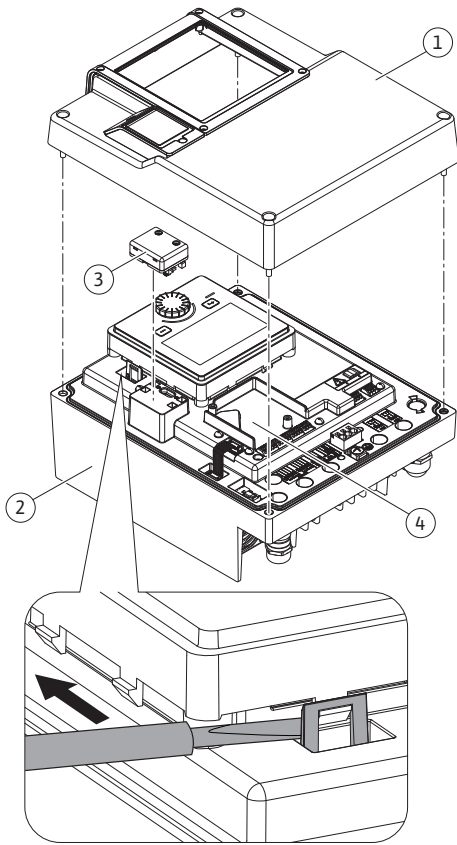
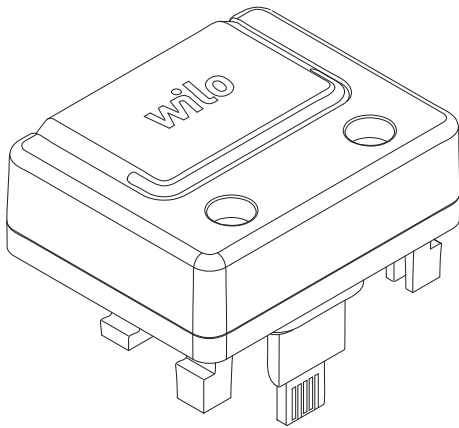

Fig. 25: Electronic module
Fig. 26: Wilo-Smart Connect Module BT
1. Carefully open the snap-in hooks (Fig. 25) with a tool (e.g. screwdriver).
The Bluetooth interface Wilo-Smart Connect Module BT (Fig. 25, Item 3, and Fig. 26) is used to connect to mobile end devices such as smartphones and tablets. The Wilo-Smart Connect feature is in the Wilo-Assistant app. Using the Wilo-Smart Connect feature, you can operate and adjust the pump and read out pump data. For settings, see “Commissioning” [► 166] section.
1. Loosen the four screws of the upper part of the electronic module (Fig. 25, Item 1; Fig. 1, Item 2).
3. Insert the Wilo-Smart Connect Module BT into the designated interface Wilo-Connectivity Interface. See Fig. 25, Item 3.
CIF modules (accessories) are used for communication between pumps and building management systems. CIF modules are plugged into the electronic module (Fig. 25, Item 4)